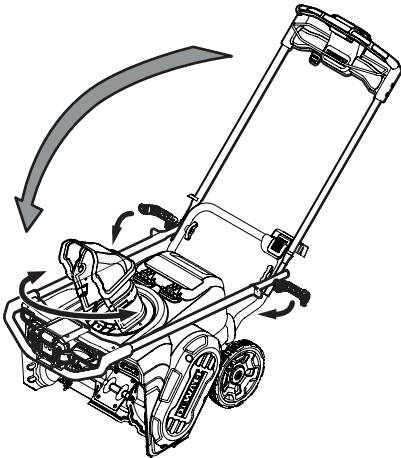

Figure 17
3. Pivot the upper handle down to the folded position. Be sure not to pinch any of the cables in the process (Figure 17).